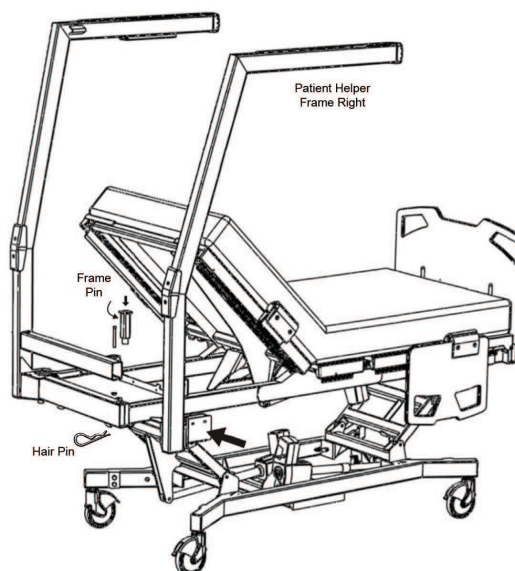

Figure 5
5. Drop (1) frame pin in place securing the trapeze arm to the bed frame (see Figure 5). Secure frame pin with hair pin.